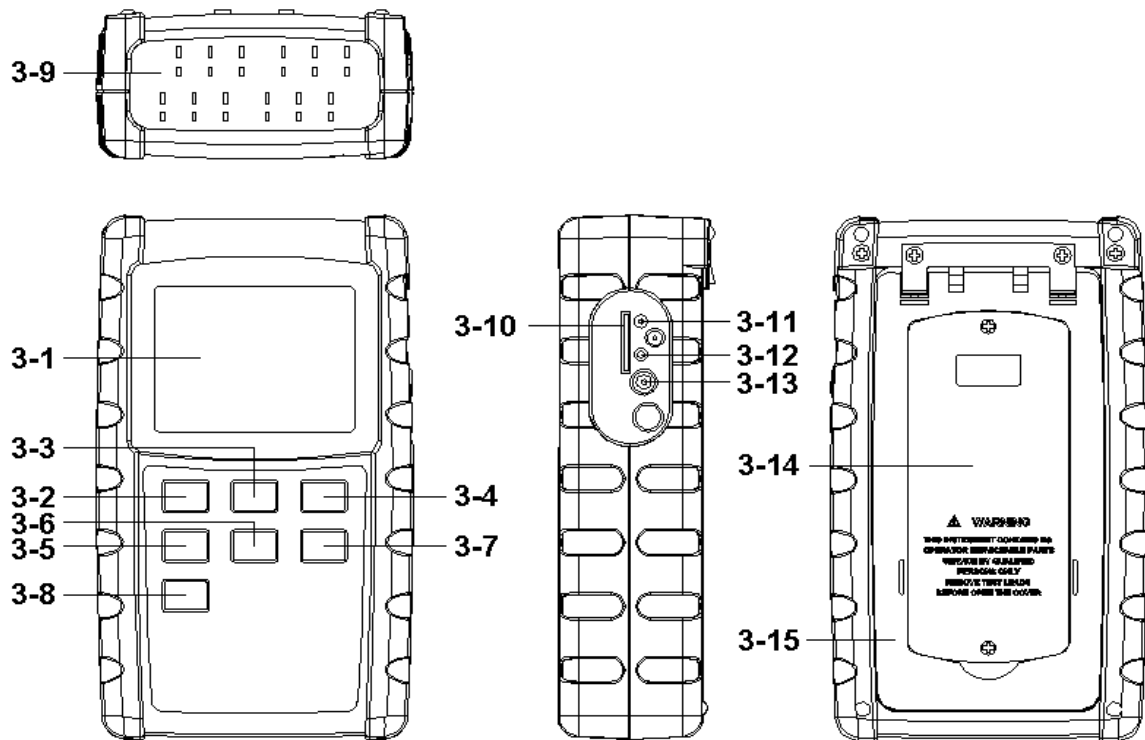

Fig. 1
1) Power on the meter by pressing the " Power button " ( 3-2, Fig. 1 ) once.
3) Insert the Type K probes into the " T1, to T12 input socket " ( 3-9, Fig. 1 ).
If intend to show the other 4 channels ( CH9, CH10, CH11, CH12 ) temperature value, just press the " Page Button " ( 3-6, Fig. 1 ) once , the Display will show those channels' Temp. value following, press the " Page Button " ( 3-6, Fig. 1 ) once again, the Display will revert to the 8 channels ( CH1, CH2, CH3, CH4, CH6, CH7, CH8 ) screen.
All the measuring procedures are same as the Type K ( chapter 4-1 ), except to select the Temp. Sensor type to " Type J, T, R, S " by pressing the " Type Button " ( 3-5, Fig. 1 ) once in sequence until the up LCD display show the " J, K,T, E, R, S " indicator.
During the measurement, press the " Hold Button " ( 3-3, Fig. 1 ) once will hold the measured value & the LCD will display a " HOLD " symbol.
1) The data record function records the maximum and minimum readings. Press the " REC Button " ( 3-4, Fig. 1 ) once to start the Data Record function and there will be a " REC " symbol on the Display.
a) Press the " REC Button " ( 3-4, Fig. 1 ) once, the " REC MAX " symbol along with the maximum value will appear on the Display.
If intend to delete the maximum value, just press the " Hold Button " ( 3-3, Fig. 1 ) once, the Display will show the " REC " symbol only & execute the memory function continuously.
- b) Press the " REC Button " ( 3-4, Fig. 1 ) again, the " REC MIN " symbol along with the minimum value will appear on the Display.
If intend to delete the minimum value, just press the " Hold Button " ( 3-3, Fig. 1 ) once, the Display will show the " REC " symbol only & execute the memory function continuously.
After power ON, the " LCD Backlight " will light automatically. During the measurement, press the " Backlight Button " ( 3-2, Fig. 1 ) once will turn OFF the " LCD Backlight " .
insert the SD card into the " SD card socket " ( 3-10, Fig. 1).
Press the " REC Button ( 3-4, Fig. 1 ) once , the LCD will show the text " REC ", then press the " Logger Button " ( 3-7, Fig. 1 ), the " REC " will flashing and beeper will sound, at the same time the measuring data along the time information will be saved into the memory circuit.
During execute the Datalogger function , if press the " Logger Button " ( 3-7, Fig. 1 ) once will pause the Datalogger function ( stop to save the measuring data into the memory circuit temporally ). In the same time the text of " REC " will stop flashing.
*If press the " Logger Button " ( 3-7, Fig. 1 ) once again will execute the Datalogger again, the text of " REC " will flashing .*
During pause the Datalogger, press the " REC Button " ( 3-4, Fig. 1 ) continuously at least two seconds, the " REC " indicator will be disappeared and finish the Datalogger.
Press the " REC Button ( 3-4, Fig. 1 ) once , the LCD will show the text " REC ", then press the " Logger Button " ( 3-7, Fig. 1 ) once, the " REC " will flashing once and Beeper will sound once, at the same time the measuring data along the time information and the Position no. will be saved into the memory circuit.
- \* During execute the Manual Datalogger, press the " ▲ Button " ( 3-5, Fig. 1 ) once will enter the " Position /Location no. setting. use the " ▲ Button " or " ▼ Button " ( 3-6, Fig. 1 ) to select the measuring location no. ( 1 to 99, for example room 1 to room 99 ) to identify the measurement location. After the position no. is selected, press the " Enter Button " ( 3-4, Fig. 1 ) once will save the Position/Location no. automatically.*
Press the " REC Button " ( 3-4, Fig. 1 ) continuously at least two seconds, the " REC " indication will be disappeared and finish the Datalogger.
During the normal measurement ( not execute the Datalogger ), If press " Time check Button " ( 3-8, Fig. 1 ) once , the left lower LCD display will present the time information of Year/Month, Date/Hour, Minute/Second in sequence.
During the normal measurement ( not execute the Datalogger ), If press " Sampling time check Button " ( 3-7, Fig. 1 ) once , the left lower LCD display will present the Sampling time information in second unit.